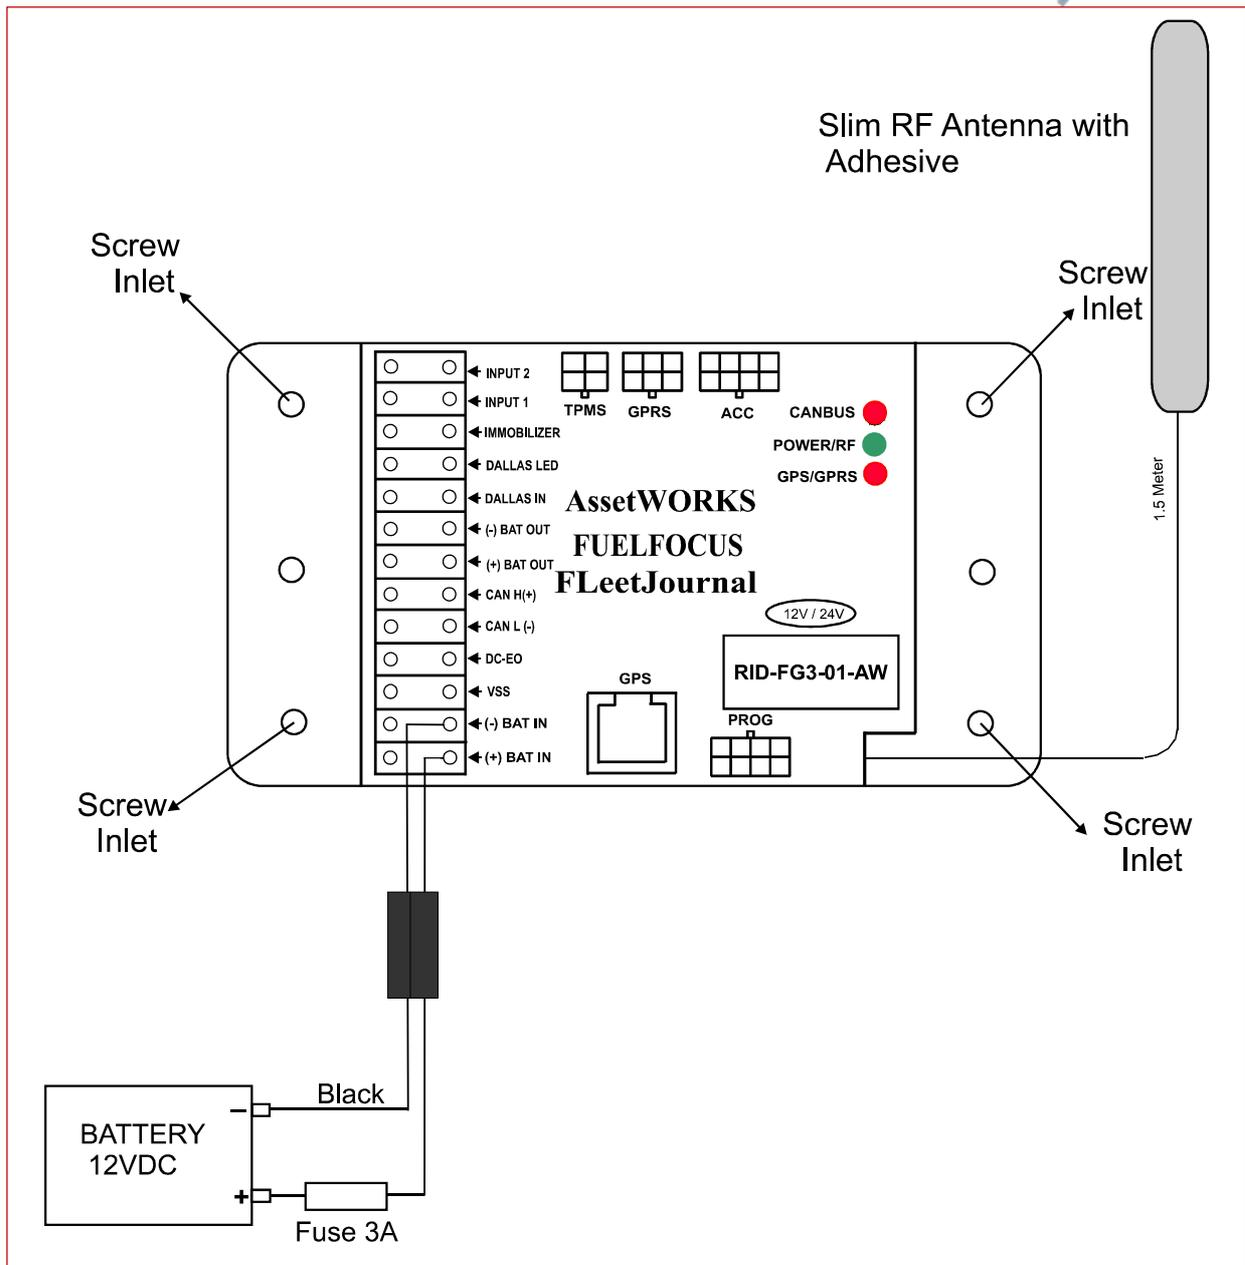

Figure 2: FG3 Wiring Diagram
2. Drill at least two 1/8" holes for the FG3 mounting. Use the FG3 to mark the holes (refer to Figure 2: FG3 Wiring Diagram)
Run a wire from the vehicle ignition switch (or start/stop button on some hybrid models) to the DC-EO terminal on the FG3 (refer to Figure 2).